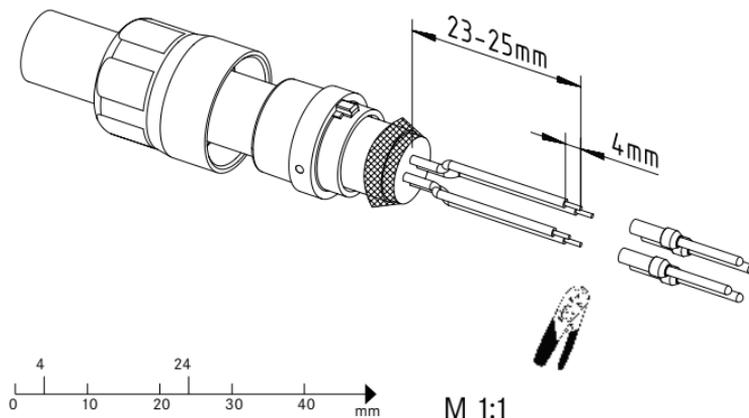

Figure XI-13
- Slide the fitting nut and selected seal onto the cable (Figure XI-13).
- Remove the cable sheath (Figure XI-13).
- Pull the screening braid back. Remove the foils if necessary (Figure XI-13).
- Remove the wire insulation. Crimp on the contacts (Figure XI-13).